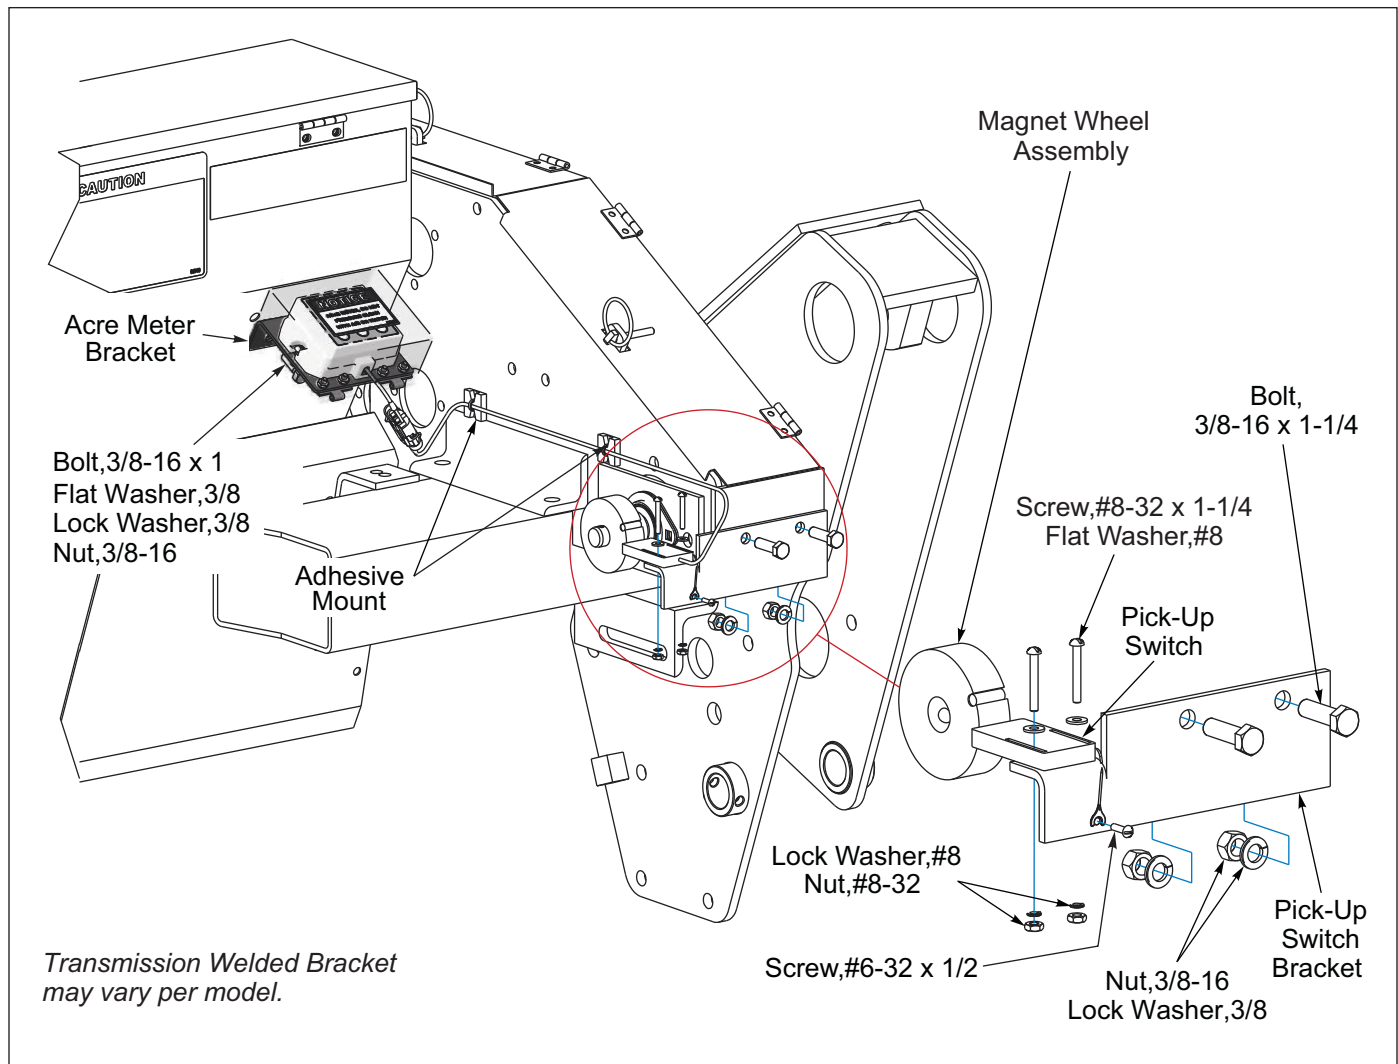

Figure 2-40: Electronic Acre Meter
2. Attach the Acre Meter Bracket to the Seed Box with 3/8-16 x 1 Bolts, Flat Washers, Lock Washers, and Nuts. See Figure 2-40.